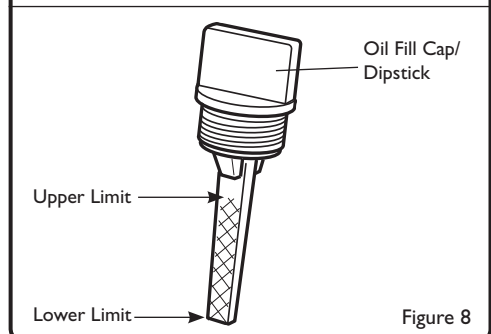

Figure 8
4. When oil level is full, the oil will be at upper limit on dip stick. (See Figure 8)
5. If the oil level is near or below the lower limit mark on the dipstick (See Figure 8), add oil slowly and recheck until oil level reaches upper limit of dipstick. **DO NOT OVERFILL.**